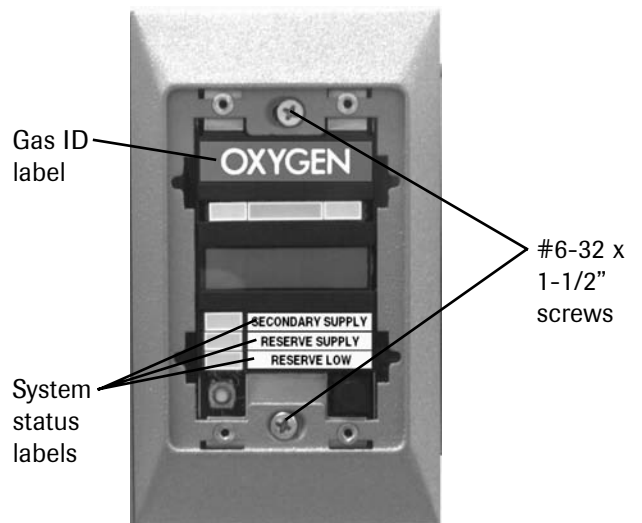

Figure 14
3. Install the digital display module chassis into the mounting box using (2) #6-32 x 1-1/2" screws. **Do not tighten.** Refer to **Figure 14**.
4. If user-assigned signal inputs are in use, install system status labels. Refer to **Figure 14**.